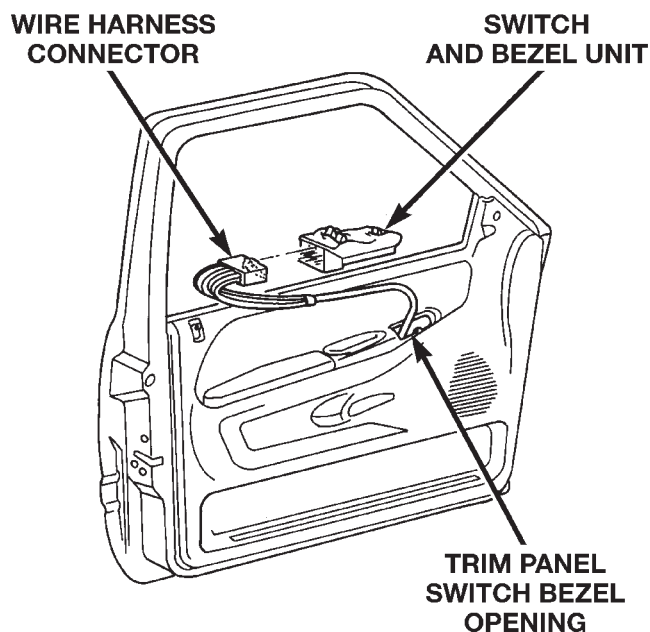

Fig. 4 Power Window and Lock Switch and Bezel Unit Remove/Install
(1) Disconnect and isolate the battery negative cable.
(2) Using a wide flat-bladed tool such as a trim stick, gently pry the upper edge of the switch bezel to release the retainer that secures the switch bezel to the door trim panel opening (Fig. 4).
(3) Pull the switch and bezel unit away from the door trim panel opening far enough to access and unplug the wire harness connector.
(4) Remove the power window and lock switch and bezel unit from the door trim panel.
(5) Reverse the removal procedures to install. When installing the switch and bezel unit to the door trim panel opening, insert the rear of the bezel into the opening, then push down on the front of the bezel until the retaining tab snaps into place.